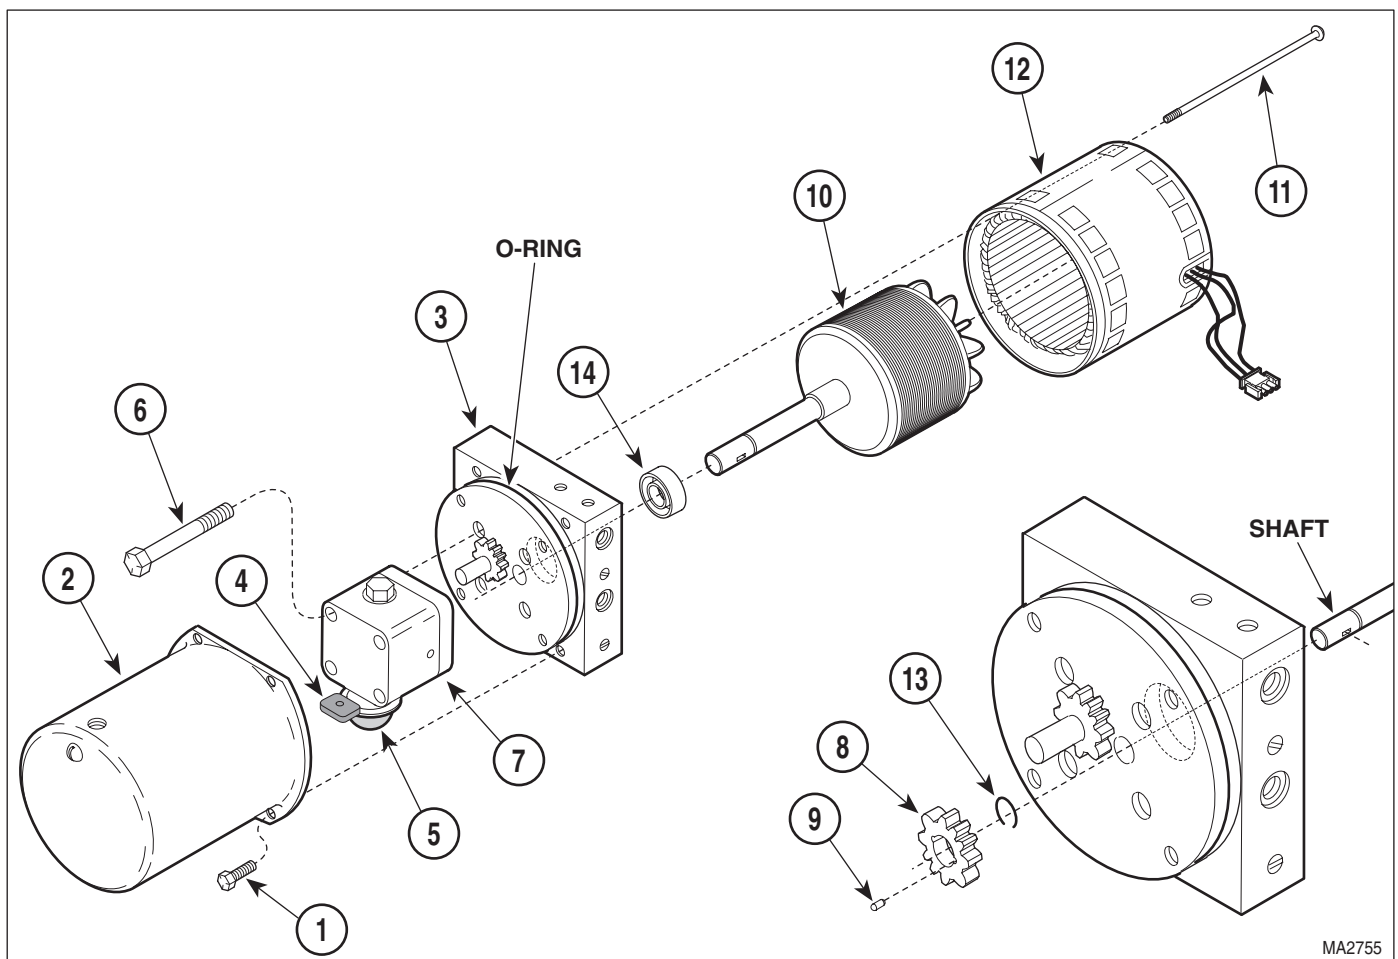

Figure 4-10. Motor Shaft Seal Removal / Installation
- (1) Unplug table power cord from outlet.
- (2) Remove motor pump assembly (Refer to para 4.9).
- (3) Remove four screws (1, Figure 4-10) and reservoir (2) from manifold block (3).
- (4) Remove magnet (4) from strainer (5).
- (5) Remove four screws (6) and pump housing (7) from manifold block (3).
- (6) Remove pump gear (8) and woodruff key (9) from shaft of rotor assembly (10).
- (7) Remove four screws (11) and motor housing (12) from manifold block (3).